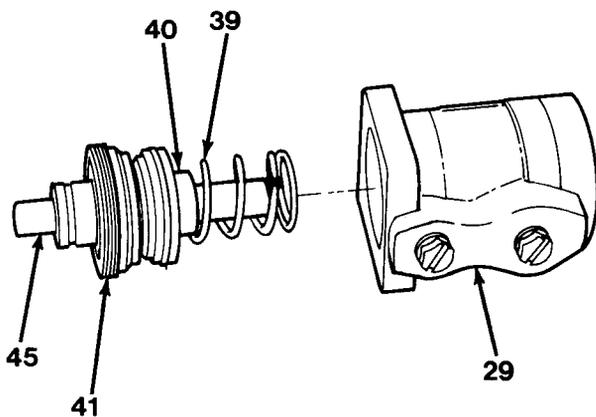

Figure 17-6
4. Loosen end plug (41) with spanner wrench and remove piston assembly (45) from brake booster valve (29, Figure 17-6) housing.
5. Remove spring (39) and retainer (40) from internal assembly.
6. Remove end plug (41) from piston assembly (45).